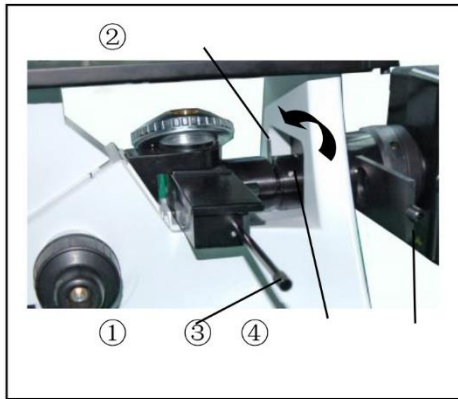

Figure 9
3.1.8. Centering the Field Iris Diaphragm (Figure 9, 10)